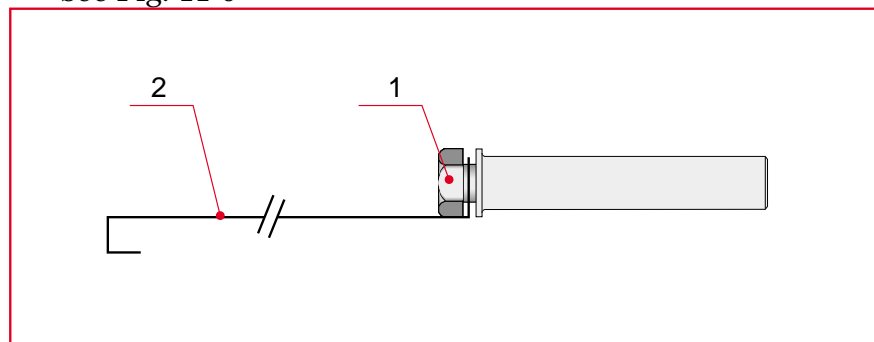

Fig. 11-6
- 6 Fit each pin with a HM 12x20 screw (1) and a wire (2) see Fig. 11-6